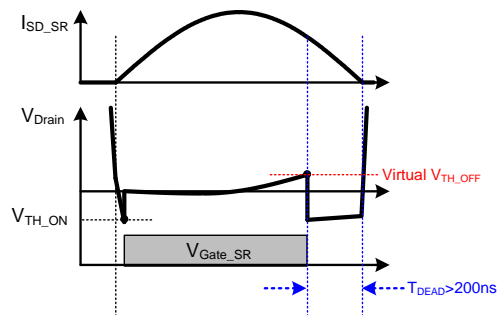
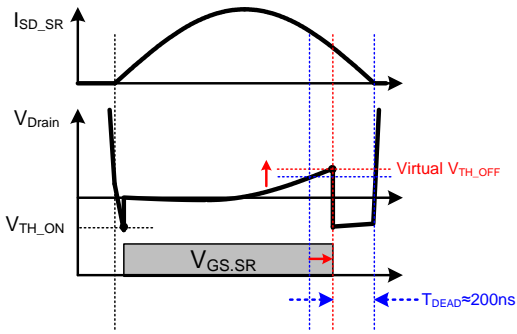

Figure 19. Premature SR gate turn-off ( $T_{DEAD} > t_{DEAD\_H}$ )
Figure 20. Dead time control to maintain  $T_{DEAD} \approx 200ns$
In FAN6248HA(B) version, if a dead time  $T_{DEAD}$  is larger than 200ns of  $t_{DEAD\_H}$ , as shown in Figure 19,  $V_{offset}$  decreases by one step in next switching cycle. As a result, the dead time is decreased by increase of virtual  $V_{TH\_OFF}$ , and becomes close to  $t_{DEAD\_H}$ , as shown in Figure 20. If the dead time is smaller than  $t_{DEAD\_H}$ , the dead time is increased by the virtual  $V_{TH\_OFF}$  decrease. Thus, the dead time is maintained at around  $t_{DEAD\_H}$  regardless of parasitic inductances.